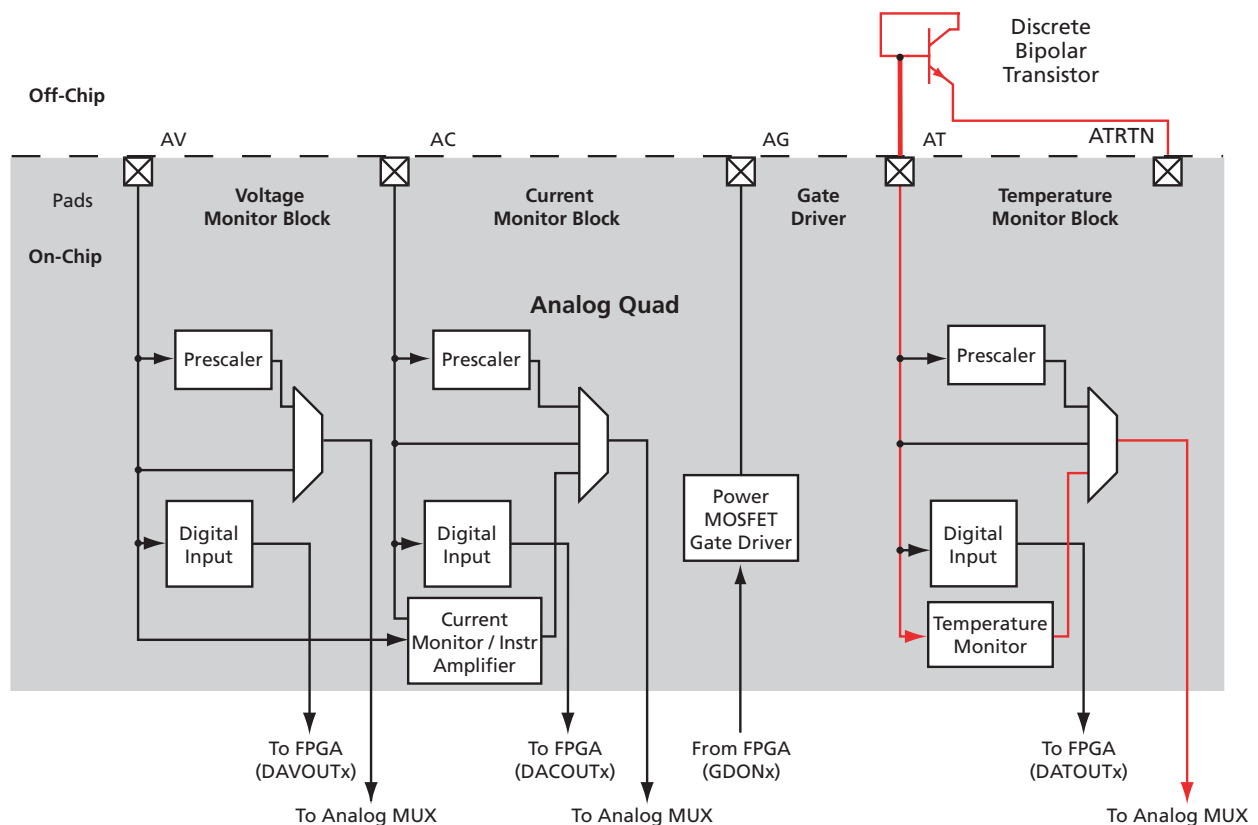

Figure 2-76 • Temperature Monitor Quad
The final pin in the Analog Quad is the Analog Temperature (AT) pin. The AT pin is used to implement an accurate temperature monitor in conjunction with an external diode-connected bipolar transistor (Figure 2-76). For improved temperature measurement accuracy, it is important to use the ATRTN pin for the return path of the current sourced by the AT pin. Each ATRTN pin is shared between two adjacent Analog Quads. Additionally, if not used for temperature monitoring, the AT pin can provide functionality similar to that of the AV pad. However, in this mode only positive voltages can be applied to the AT pin, and only two prescaler factors are available (16 V and 4 V ranges—refer to Table 2-54 on page 2-128).